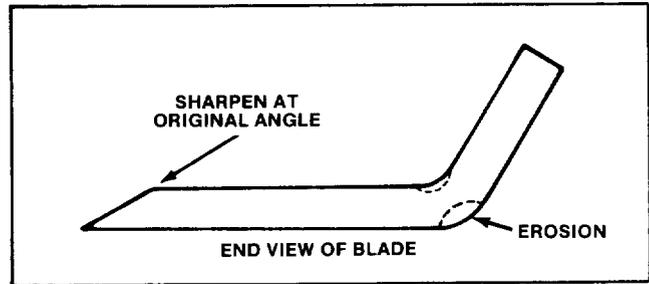

Figure 21
7. Using a file, sharpen cutting edge at both ends of the blade (Fig. 21).
Check cutter blade every time rider is tipped on end. If lock nut holding blade is loose, tighten it to 45-60 ft-lb (61-81 N·m). If blade or sabb (Fig. 21) at end of blade is worn, eroded, or cracked, replace the blade. Replace the blade if it is bent or out-of-balance. Always use genuine TORO replacement blades to assure safety and optimum performance. NEVER USE WILL-FIT REPLACEMENT BLADES.
7. Since rider is tipped on end, check condition of blade (Fig. 21).